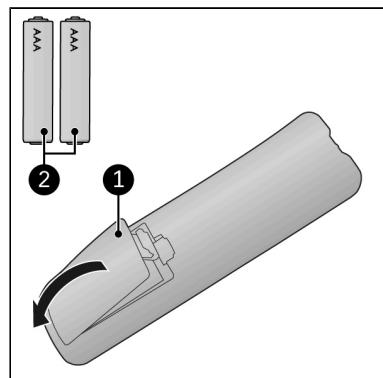

Figure 28.
1. Remove the battery cover (Figure 28, pos. 1).
2. Insert two batteries (AAA 1.5 V) (Figure 28, pos. 2) as indicated in the battery compartment. Make sure to insert the batteries correctly.